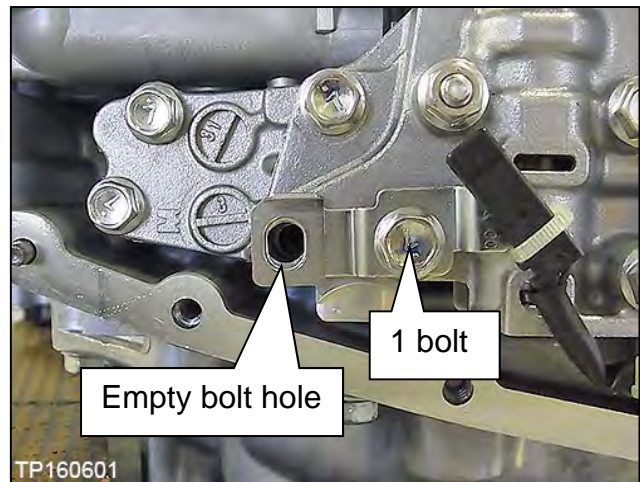

Figure 158
119. Install the CVT fluid temperature sensor bracket to the control valve with one (1) bolt (Figure 158).
**HINT:** Leave one (1) bolt hole empty as it will be used to secure the oil strainer at a later step.